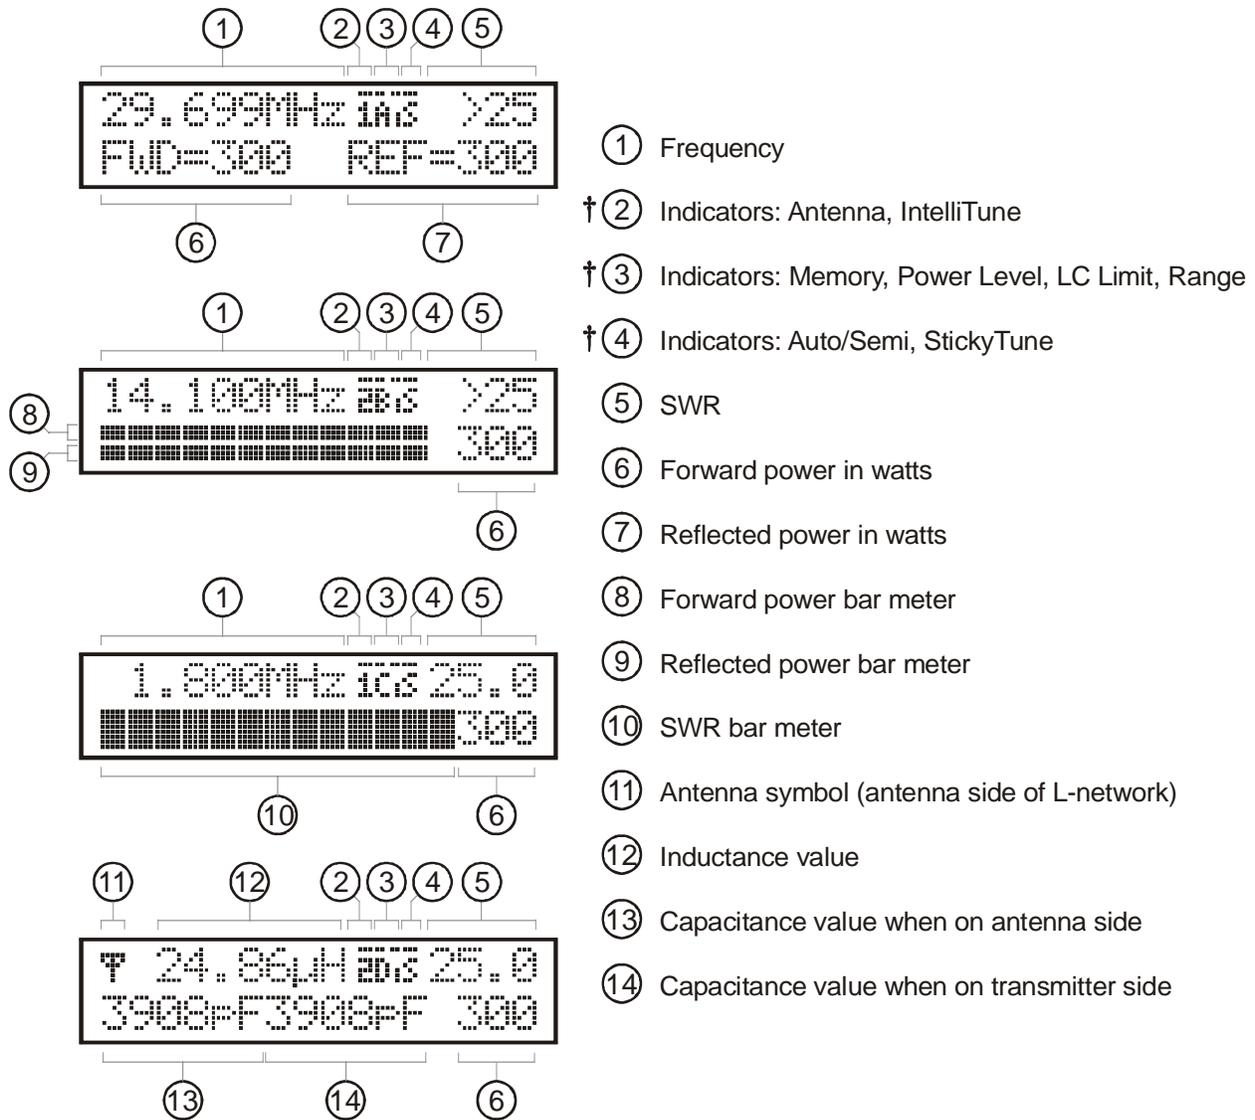
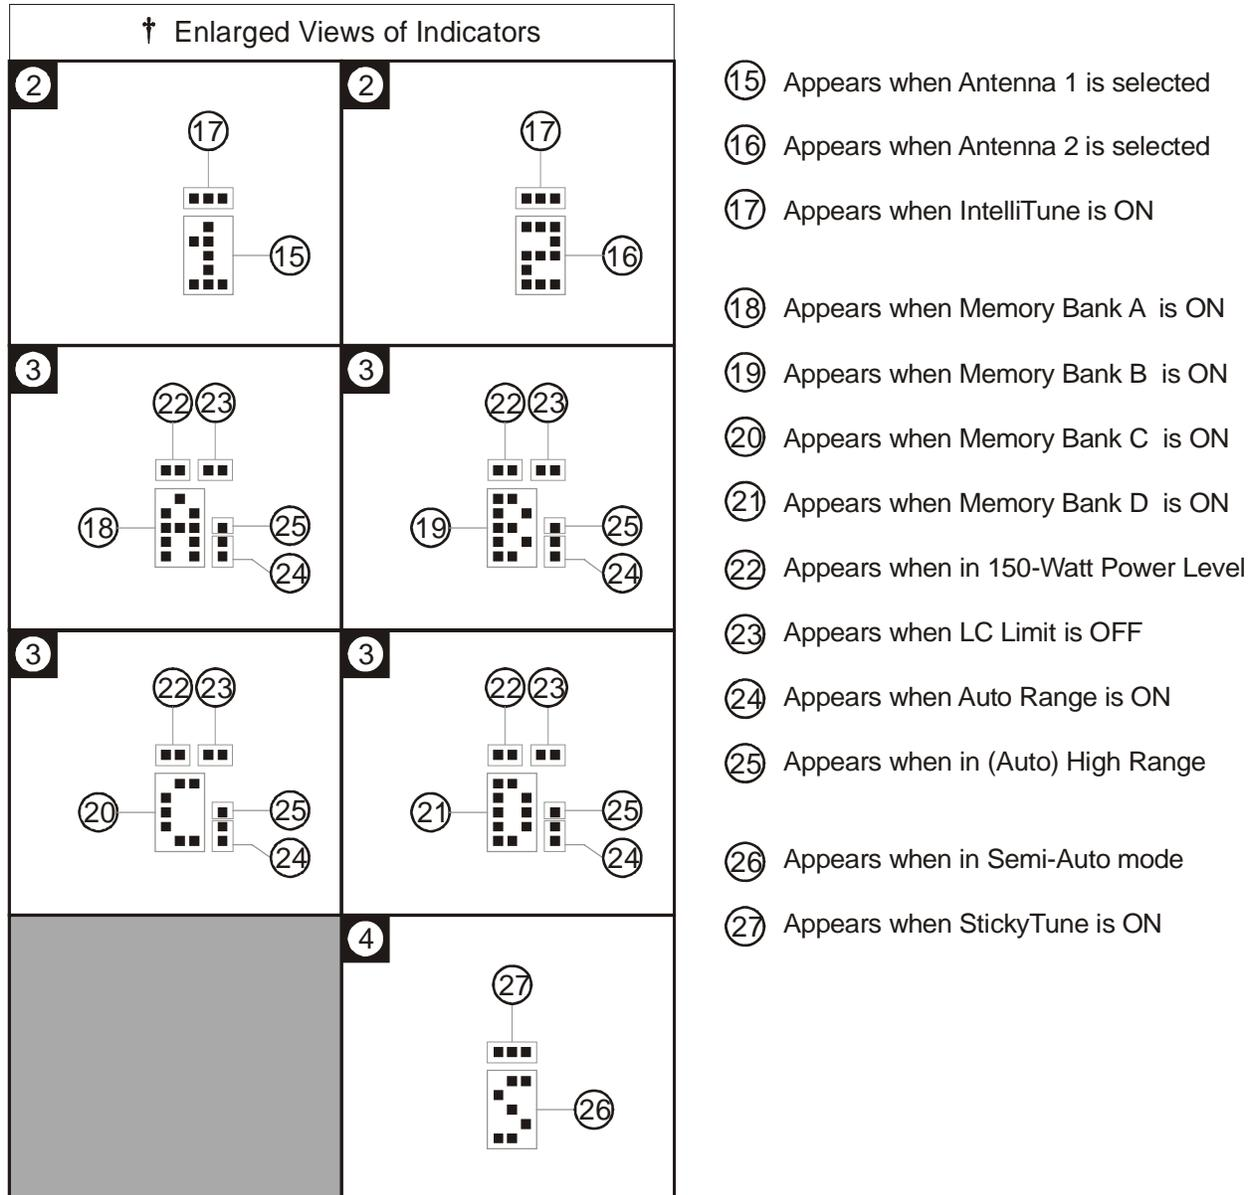

Figure 11. Main Mode Menu Display.
Figure 12. Tuner Indicators.
- LCD Display:** A 2-line by 16-character alphanumeric display. It displays the tuner’s various menus and status. The display contrast can be adjusted by the [LCD] control on the front panel. Below the display are the SWR and power bar meter scales. Refer to Figures 11 and 12 for descriptions of the various displayed information.
The meter can be set to low, high, or auto range. Auto range automatically sets the meter scales according to the input RF power to the tuner. Forward power greater than 30 watts or reflected power greater than six watts automatically sets the meter to the high power range. Forward power less than 25 watts and reflected power less than four watts automatically set the meter to the low power range. To cycle the meter range among low, high, and auto range, press the [TUNE] and [L-DN] buttons simultaneously. The forward needle will read “300” for high range, “30” for low range, and “100” for auto range until the buttons are released. When auto range is enabled, a two-dot vertical segment (low range) or a three-dot vertical segment (high range) appears in the lower right corner of the Range indicator on the main LCD screen. One beep indicates high range is selected; two beeps indicate low range; three beeps indicate auto range. Refer to Figures 11 and 12 for the on-screen Range indicator.
The main mode menus show various tuner settings and status. There are four main mode menus arranged in a “wrap-around” structure. When powered on, tuner operation starts with the main menu that was last used. Within each main menu, press the [MODE] button briefly to view the next main menu. Press and hold the [MODE] button for two seconds to enter the setup mode (see below). Various tuner indicators are shown on all four main menus: Antenna 1/2, IntelliTune™, Memory, Power Level, LC Limit, Meter Range, Auto/Semi, and StickyTune™. Refer to Figures 11 and 12 for details on the displayed information.
The power meter can be set to auto range. Auto range automatically sets the meter scale according to the input RF power to the tuner. Forward power greater than 30 watts or reflected power greater than six watts automatically sets the meter to the high power range. Forward power less than 25 watts and reflected power less than four watts automatically set the meter to the low power range. When auto range is enabled, a two-dot vertical segment appears on the on-screen tuner indicator. Refer to Figures 11 and 12 for the on-screen Range indicator.
Various tuner indicators are shown on the main menus to indicate tuner status. Refer to Figure 11 for locations of these indicators. The number enclosed within () is the item number of Figure 12.
Allows you to select the meter scale range. In the 30 watts (low) range, the forward full scale is 30 watts and the reflected full scale is 6 watts (divide the meter reading by 10). In the 300 watts (high) range, the forward full scale is 300 watts and the reflected full scale is 60 watts. Auto range automatically sets the meter scales according to the input RF power to the tuner. Forward power greater than 30 watts or reflected power greater than six watts automatically sets the meter to the high power range. Forward power less than 25 watts and reflected power less than four watts automatically set the meter to the low power range. Refer to Figures 11 and 12 for the on-screen Meter Range indicators. Default is 300 watts range.
for Antenna 1 and Antenna 2 (settings for balanced line or single-wire antenna are stored as Antenna 1). This provides memory for up to eight different antennas. Refer to Figures 11 and 12 for the on-screen Memory indicator. Defaults are memory banks 1A and 2A ON.
Turns the *IntelliTune*TM tuning algorithm on and off. When the tuner cannot find an appropriate setting in its memory, it begins its calculation function. It measures the complex impedance of the antenna (load) at the transmitting frequency, then it calculates the L/C components needed for a match. Then it fine-tunes the component values. If for any reason the tuner cannot calculate the load impedance, it proceeds to yet another method of calculation. If for any reason, this function can be turned off. Refer to Figures 11 and 12 for the on-screen *IntelliTune*TM indicator. Default is ON.
The upper limits of inductance (L) and capacitance (C) are factory-limited according to frequency and maximum power rating; i.e., higher frequencies need less inductance and less capacitance when the L-network is properly tuned. Pressing [C-UP] and/or [L-UP] allows capacitance and inductance to be increased only to these limits. When a selected capacitance or inductance is higher than its allowed limit, and the frequency is changed, that selection is automatically reduced to the value of its limit. These limits are used to prevent matching of extreme load impedance outside the tuner's specification, which may result in excess voltage and/or current across the tuner's components. This setting is not stored in non-volatile memory and reverts back to the default when the tuner power is turned off. Refer to Figures 11 and 12 for the on-screen LC Limit indicator. Default is ON.